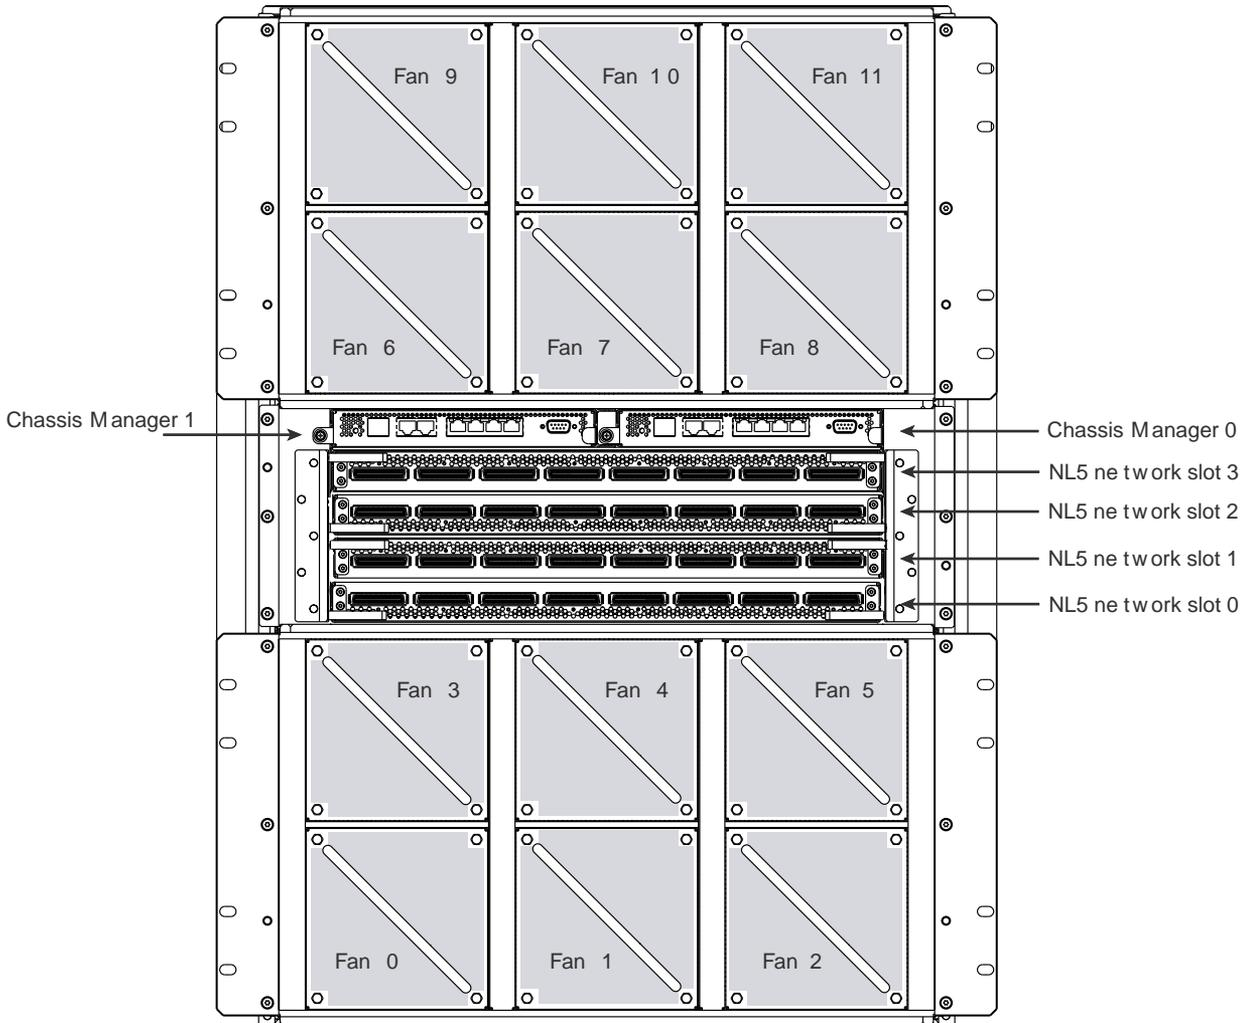
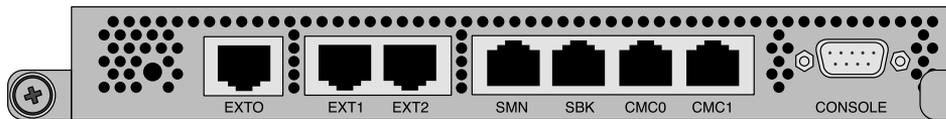

Figure 1-5 Chassis Manager Controller
Figure 1-6 CMC Ethernet Ports on SGI Altix UV 1000 Systems
The chassis manager controller (CMC) in the rear of the IRU, as shown in Figure 1-5, and Figure 1-6, supports powering up and down of the compute blades and environmental monitoring of all units within the IRU. The CMC sends operational requests to the baseboard manager controller (BMC) on each compute node. The CMC provides data collected from the compute nodes within the IRU to the system management node upon request. The CMC blade on the right side of the IRU is the primary CMC and the CMC blade on the left is an optional CMC for redundancy.
Chassis manager controller (CMC) for SGI Altix UV 1000 systems has seven RJ45 Ethernet ports, as shown in Figure 1-6.
Establish a Network/Ethernet connection (see SBK port, EXT port, and SMN port in Figure 1-6)
2. Establish a serial connection to the **CONSOLE** on the CMC (see Figure 1-6 on page 10). See “Connecting to the UV System Controller Network” on page 15 or skip to the next step.
Typically, the default password set out of the factory is `root`. The CMC prompt appears. `CMC:r1i1c` refers to rack 1, IRU 1, CMC (see Figure 1-5 on page 9 and Figure 1-6 on page 10)